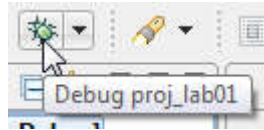

Figure 16: The CCS "Debug" bug icon
4. Select the green bug icon that symbolizes “Debug” as shown in **Figure 16**. This button should automatically change the CCS perspective to “CCS Debug” as well as load the .out file to the target.